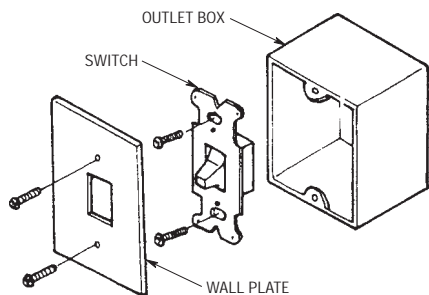

Figure 1
1. After electricity has been turned off at the main fuse box or circuit breaker panel, remove the existing wall plate and switch (Figure 1).